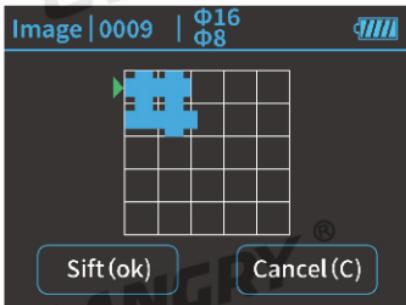

Figure 3.16 Image scanning view scanning position interface
- 2、Entering the graphic display interface of image scanning detailed data, the summary information of all current measurements will be displayed first, the interface is shown in Figure 3.16, the user needs to press the arrow keys to select the scanning position to be viewed, and then press 【OK】 key to enter the graphical data viewing interface for selecting the scanning position.